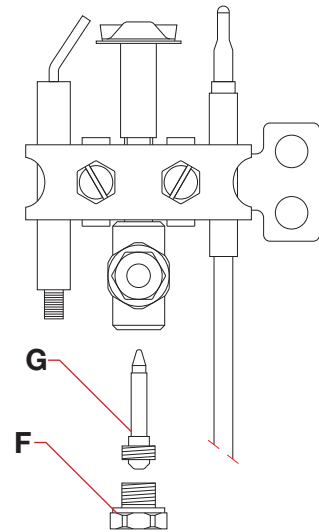

Fig.7.
5. Unscrew the nozzle 'A' (Fig.7) and replace it with the one for the gas type selected based on the indications of the technical data plate (the nozzles are marked in hundredths of a millimetre)
1. Loosen the fixing screw 'E' (Fig.7) on the primary air regulation bush 'B' (Fig.7)
2. Position the bush 'B' (Fig.7) at the distance specified "A" for the gas used, see page 8 / 2.1.3